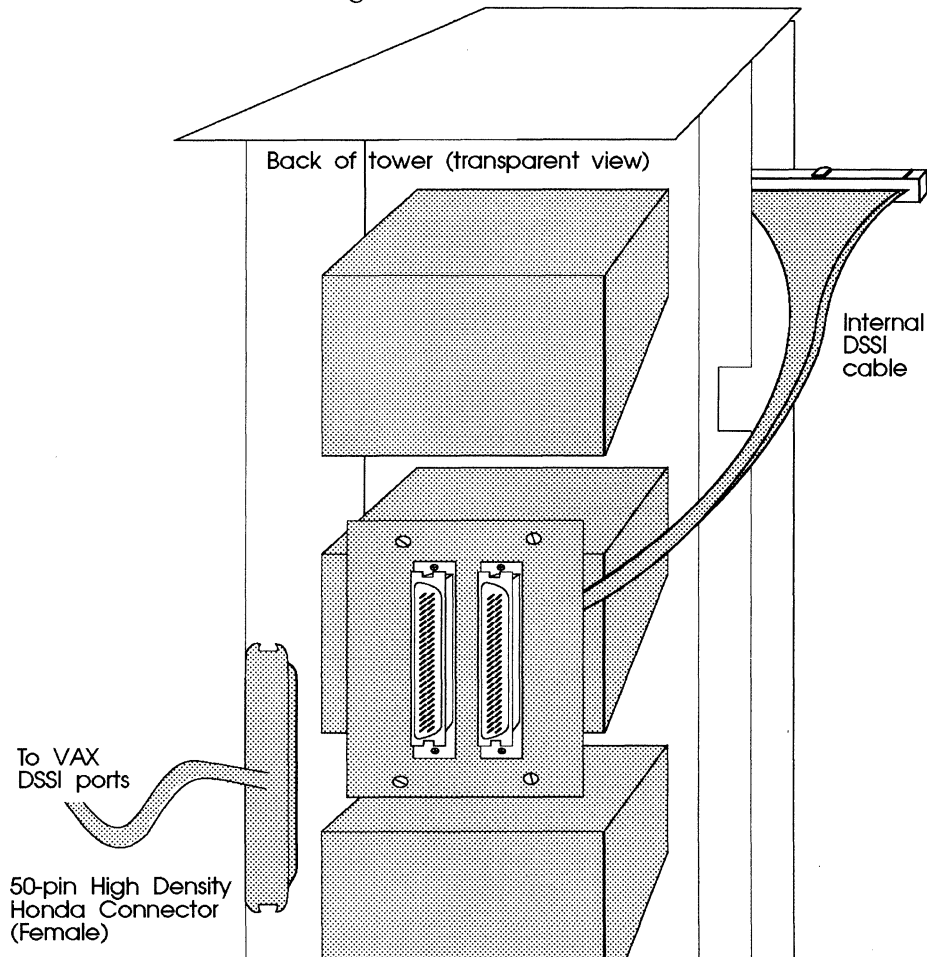

Figure 7-11: DSSI port for tower
- 10 Connect an external DSSI cable to one of the DSSI connectors on the DSSI bracket as shown in Figure 7-11.